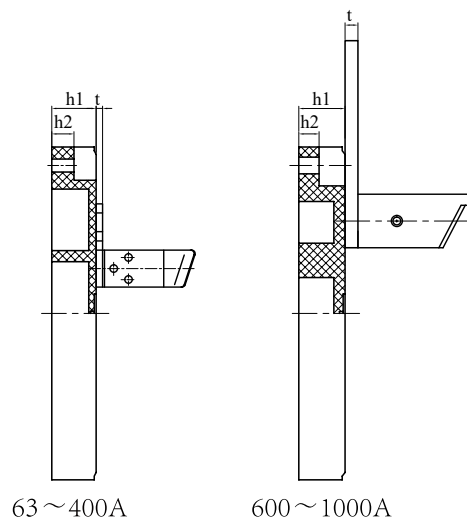

Fig. 3
5.3 HD11, HS11/B mounting plate fixation depth, and distance from the busbar to the mounting plate (see Fig. 3 and Table 4)